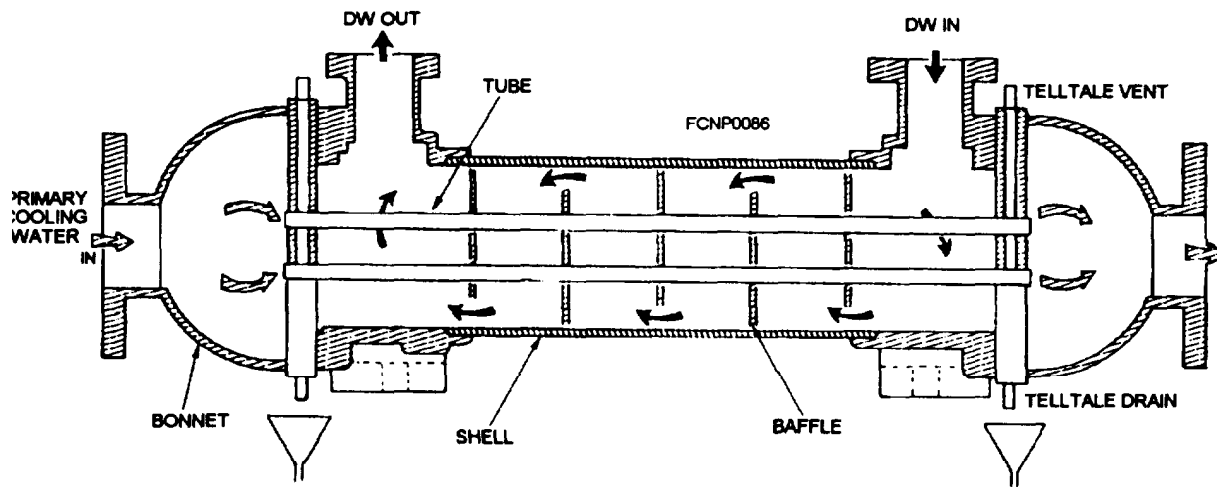
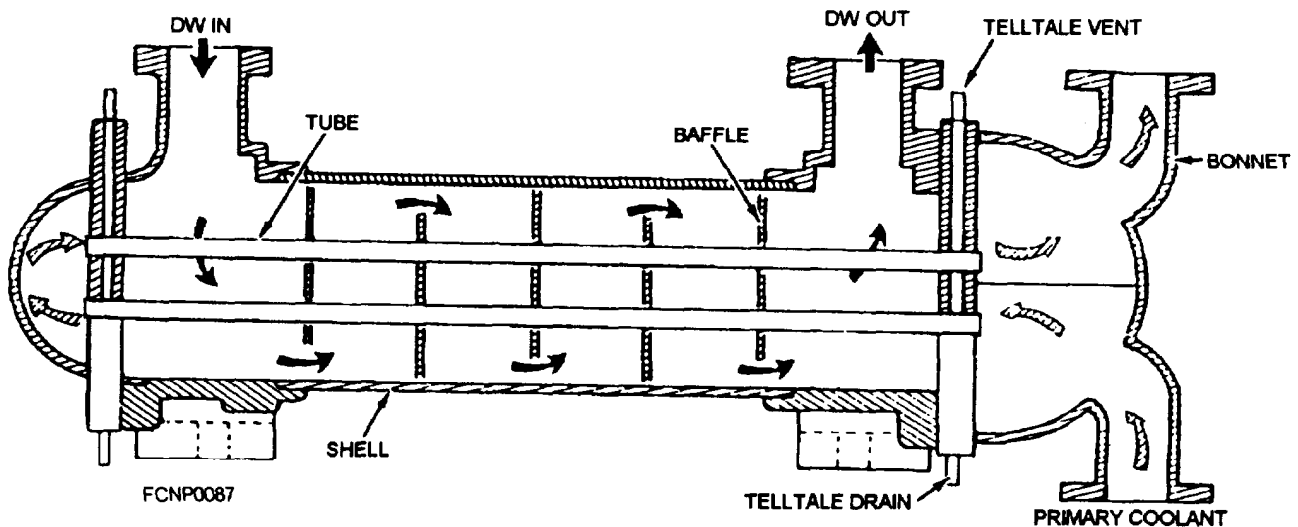

Figure 1-9.-Single-pass SW/DW heat exchanger with double-tube sheets.
Figure 1-10.—Two-pass SW/DW heat exchanger with single-tube sheets.
electronic components is transferred to the primary cooling system, which contains either seawater or chilled water from an air-conditioning plant. In both cases (figs. 1-9 and 1-10), the heat exchangers are of the shell- and tube-type in which the secondary coolant (distilled water) flows through the shell, while the primary coolant (seawater or chilled water) flows through the tubes.
A single-pass counterflow heat exchanger (fig. 1-9) is more efficient than the double-pass heat exchanger, because there is a more uniform gradient of temperature difference between the two fluids. In figure 1-9, the primary coolant (SW/CW) flows through the tubes in the opposite direction to the flow of the secondary coolant (DW). Heat transfer occurs when the seawater flows through the tubes; extracting heat from the distilled water flowing through the shell side of the heat exchanger. The distilled water is directed by baffles to flow back and forth across the tubes as it progresses
along the inside of the shell from inlet to outlet. In figure 1-9, the preferred method of double-tube sheet construction is shown. Single-tube sheet construction is shown in figure 1-10.